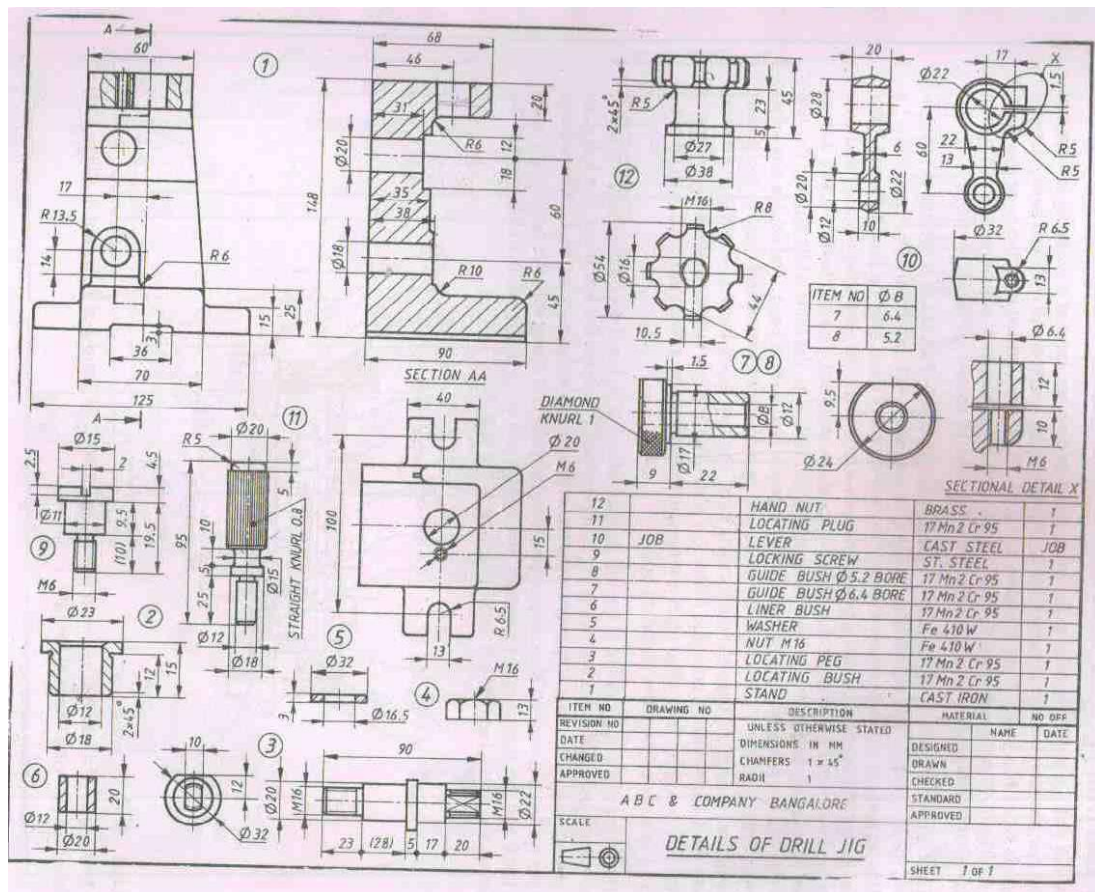

Figure 1 Component details of a drill jig
1. The component drawing of the drill jig is given in the figure 1. Assemble them and draw the sectional elevation and left side view.